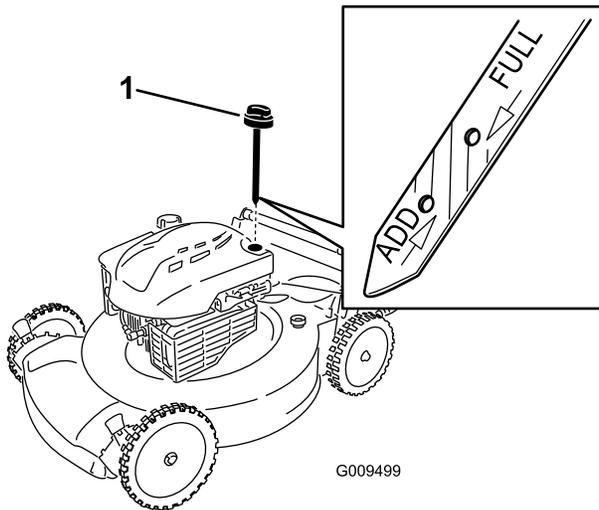

Figure 4
1. Remove the dipstick (Figure 4).
2. **Slowly** pour oil into the oil fill tube until the oil level reaches the **Full** line on the dipstick (Figure 4). Wait 3 minutes after adding oil to check the oil level with the dipstick. **Do not overfill.** (Max. fill: 20 oz. (0.59 l), type: SAE 30 detergent oil with an API service classification of SF, SG, SH, SJ, SL, or higher.)